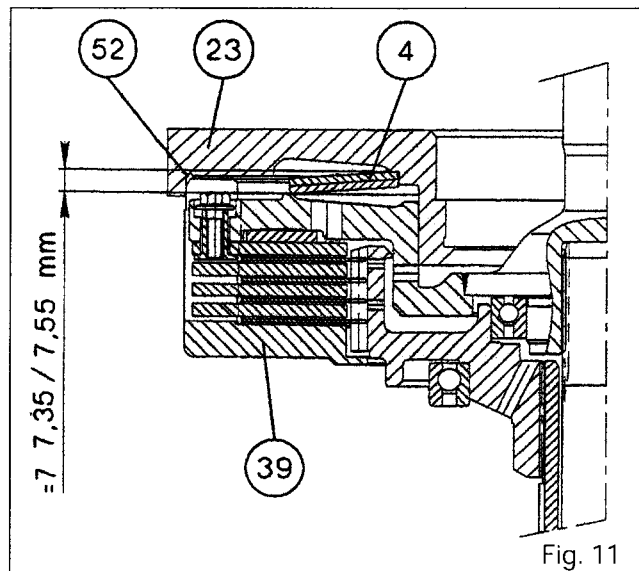

Fig. 11
52. Add the width of a shim (52) to this total distance, to obtain an "H" height of the Belleville springs (4) ranging between 7.35 and 7.55 mm. (Fig. 11).
54. Screw two guide studs diametrically opposed on box (39). Place wedges (52) selected in item 52 according to Fig. 11.
55. Mount cover (23) without moving Belleville springs (4). Torque screws to 25 - 35 Nm.